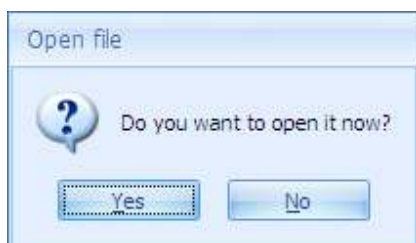

Figure 6.10 File save dialog
4. After saving the file, an Open file prompt appears (Figure 6.10). If you want to open the saved file immediately using the program the files extension is associated with, click Yes.